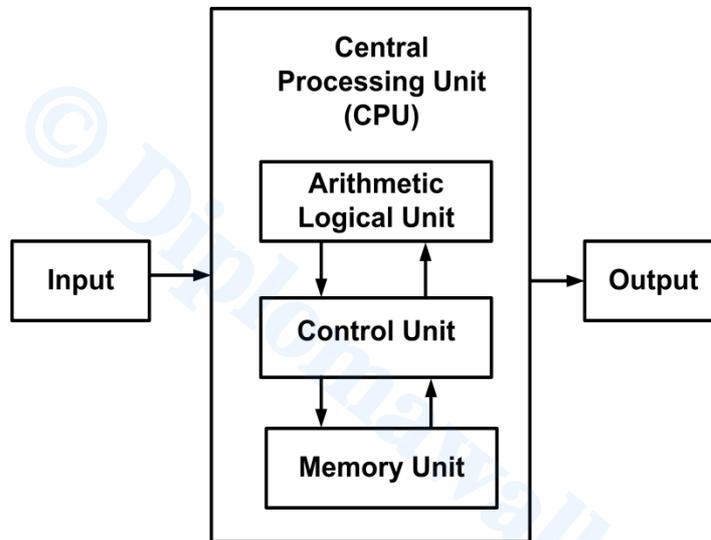

Fig. 5.1: Block diagram of Computer system with memory unit.
A “memory” is an important part of “computer” and any other “electronic system”. Memory is used to store data, program and instructions used for executing any program. It can be used for temporary storage or permanent storage. Memory is a part of Central Processing Unit (CPU) of computer. A “CPU” is having “Arithmetic Logical Unit (ALU)”, “Control Unit (CU)” and “Memory Unit”. The general block diagram of computer system with memory is shown in Fig. 5.1.